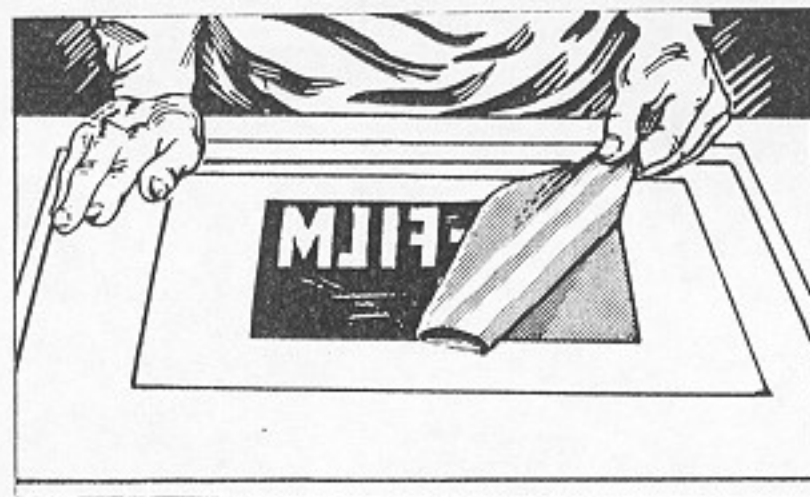

Fig. 129. Remove Backing Sheet
18. Start at one corner and slowly peel the backing sheet from the film, Fig. 129.